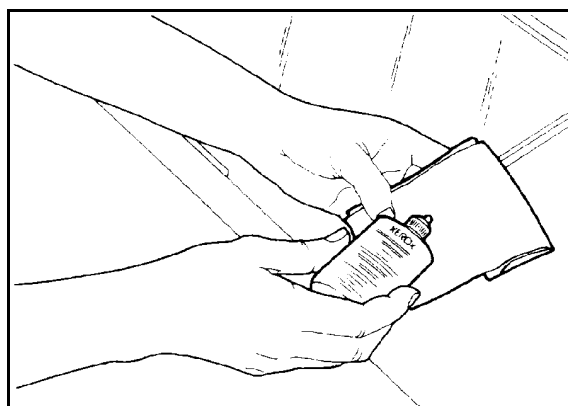

Figure 2: Dampening a lint-free cloth
- 1 Slightly dampen a clean lint-free cloth (Figure 2) with a small amount of Xerox Lens and Mirror Cleaner or a glass cleaner that is not abrasive, such as Windex or Glass Plus.